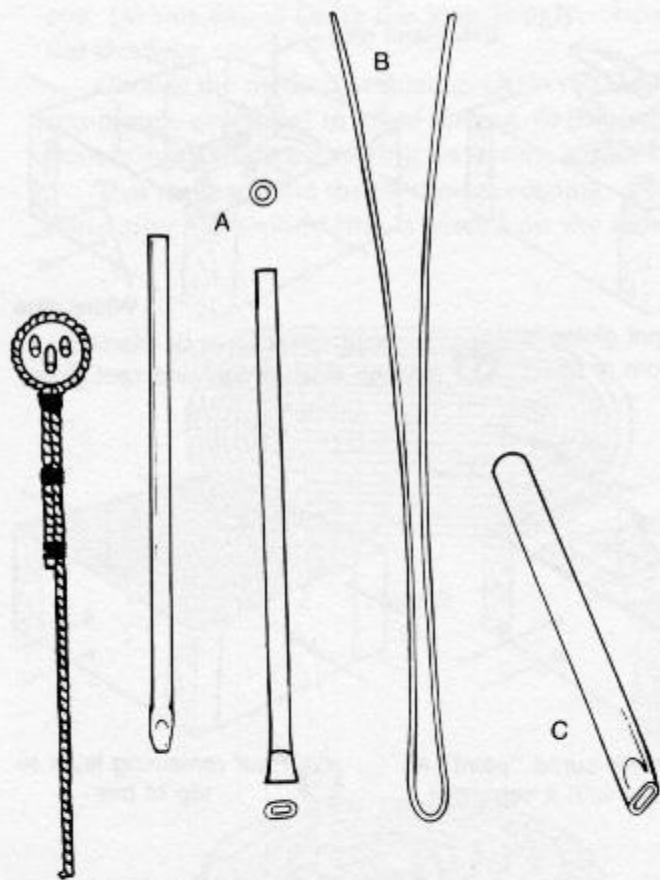

Fig. 19-6. Materials for making a deadeye seizer (Courtesy of V. Lusci).
**Materials:** Plastic straw, or tube, brass, copper, or aluminum tube 1/8-inch diameter or smaller; annealed or brass wire, at least three times as long as the tube. If a brass or plastic tube is used, crimp or flatten one end slight (FIG. 19-6).